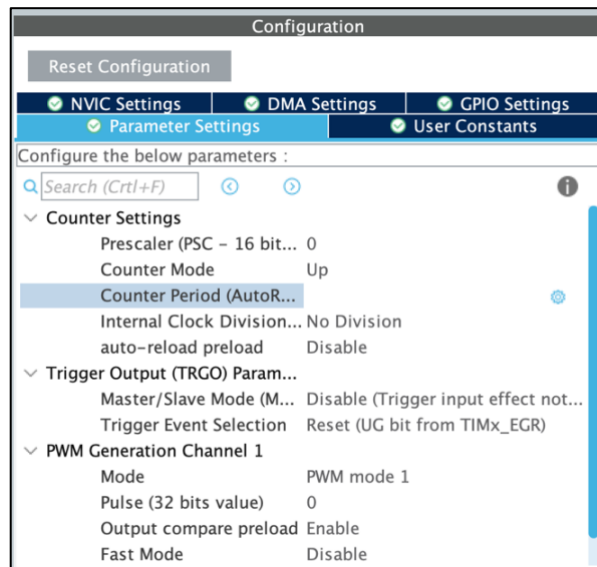

Figure 4: Timer Parameter Settings
5. Based on the **timer TIMx clock frequency**, make changes in **Prescaler (PSC)**, **Counter Period (AutoReload Register)**, and **Pulse** values under ‘Parameter Settings’ of “TIMx Mode and Configuration” window (Figure 4) to generate a PWM signal that allows you to **display the message for 16 seconds** and **pause it for 5 seconds**, and repeat this cycle. Make note of your calculations to show it to your tutor during output demonstration.